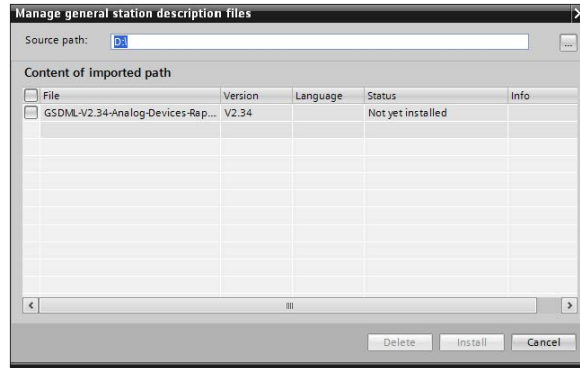

Figure 78. Add GSD File
2. The **Manage general station description files** window then displays (see Figure 78) your flash drive or hard drive directory location for the Rapid stock GSDML file (**GSDML-V2.34-Analog-Devices-Rapid-Example-20200226-020800.xml**). Note that the user must have the most up to date GSDML file from the Profinet Software at www.analog.com/adin2299.